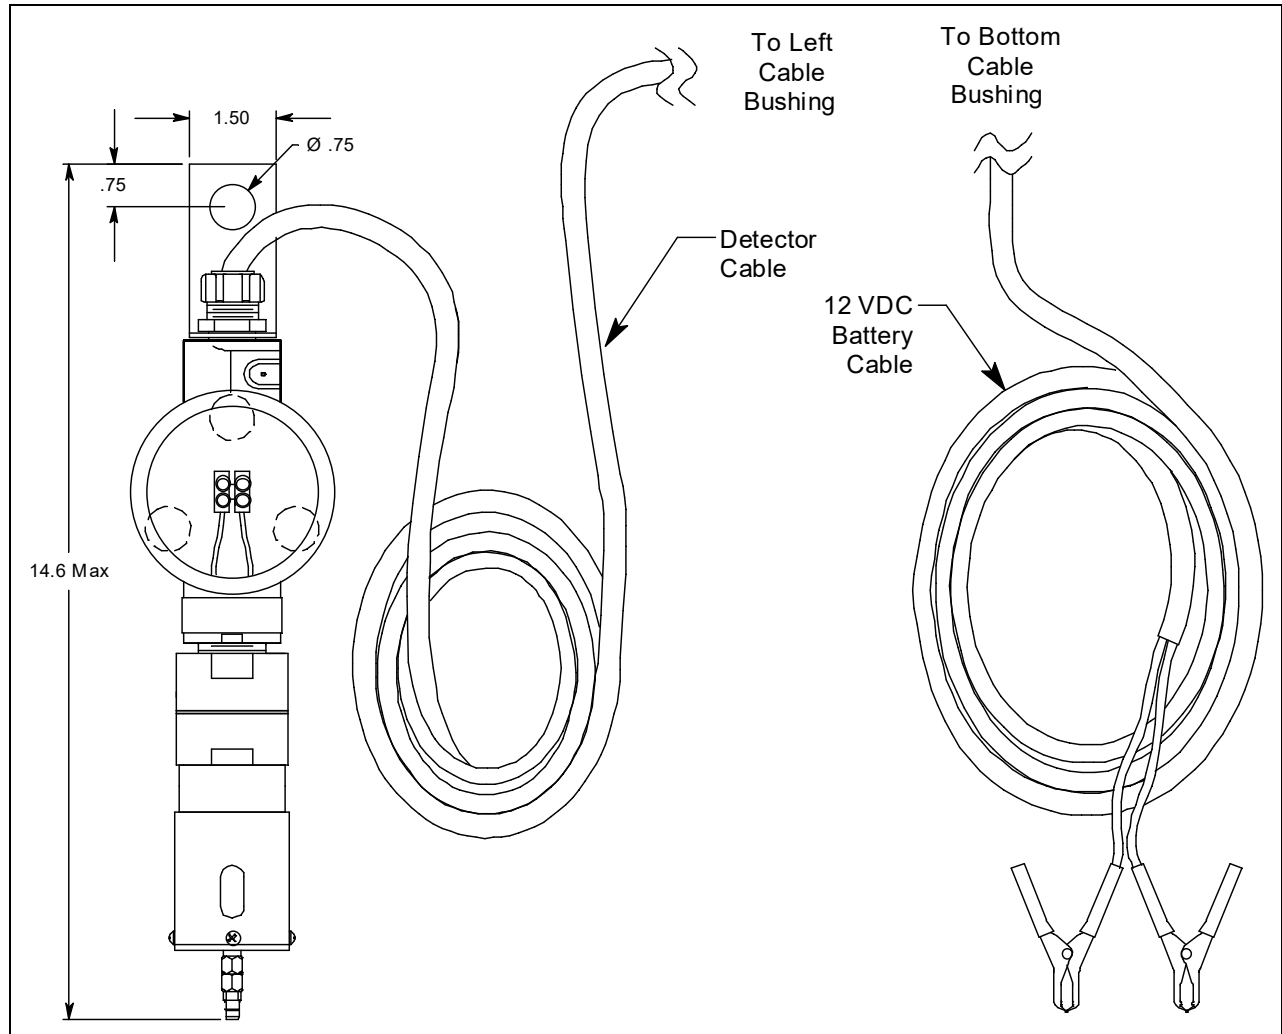

Figure 8: H₂S Junction Box Outline & Mounting Dimensions
2. At the monitoring site, use #10 screws through the Rig Monitor junction box's two mounting holes to secure the junction box to a vertical surface. Figure 8 shows the outline and mounting dimensions for the Rig Monitor. Hang the H₂S detector junction box using the mounting bracket. Ensure that the detector is facing down.